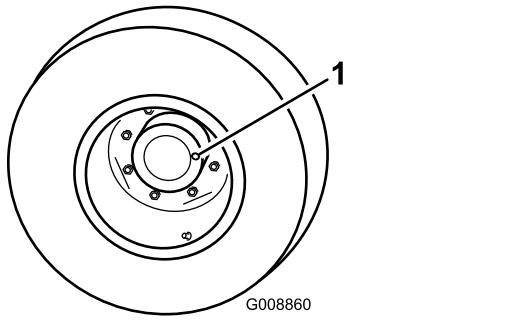

Figure 42
1. With the machine on a level surface, position the wheel so that the check/drain plug (Figure 42) is at either the 3 or 9 o'clock position.
2. Remove the plug on the planetary (Figure 42). Oil should be at the bottom of the check plug hole on the back side of the brake.